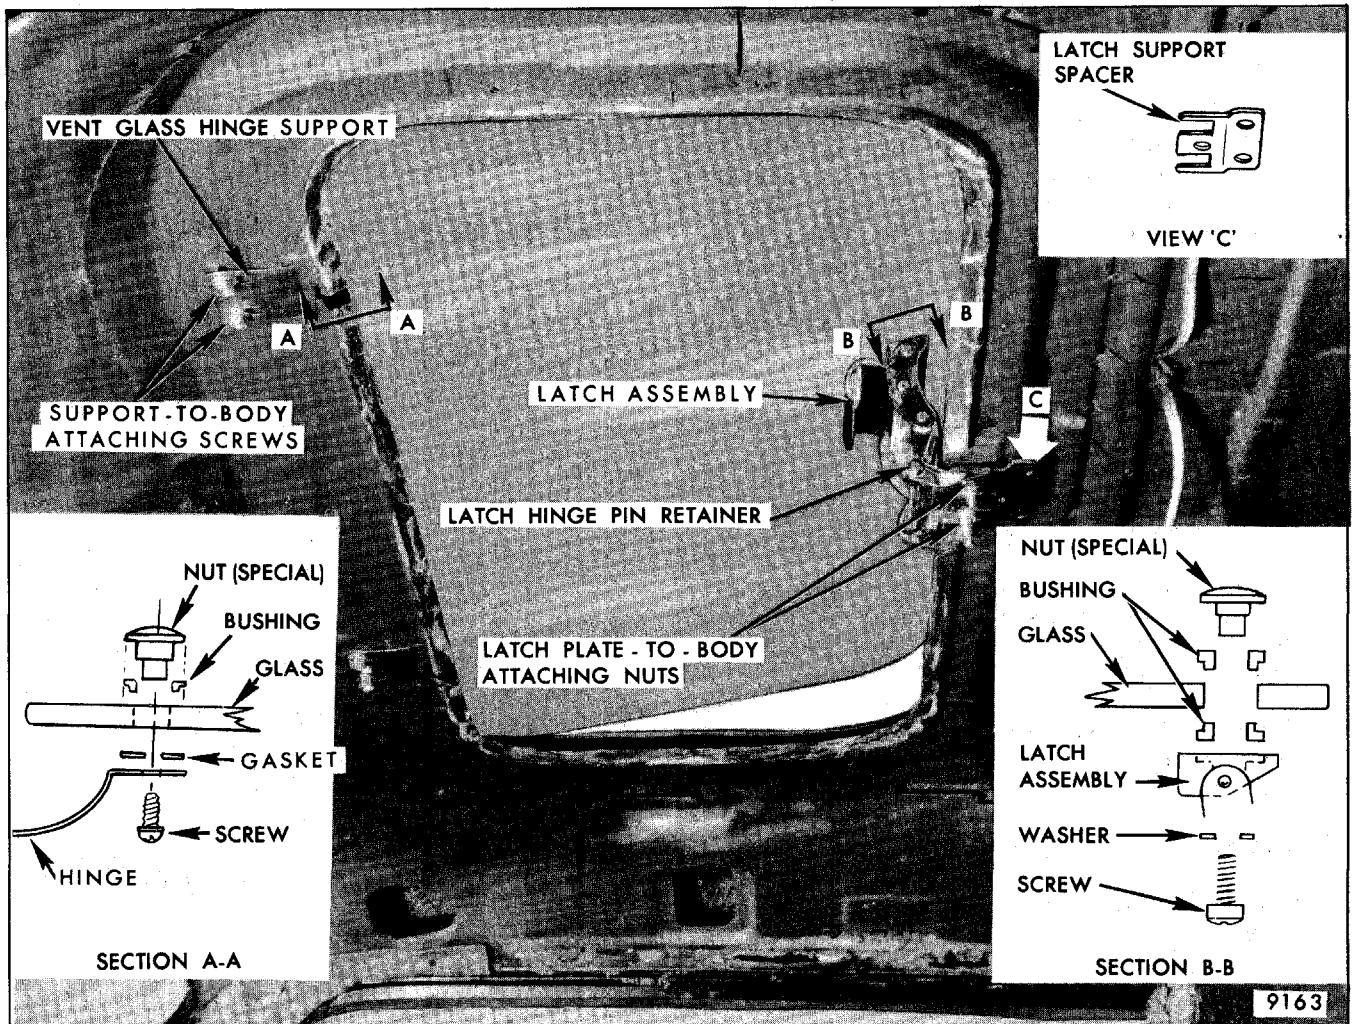
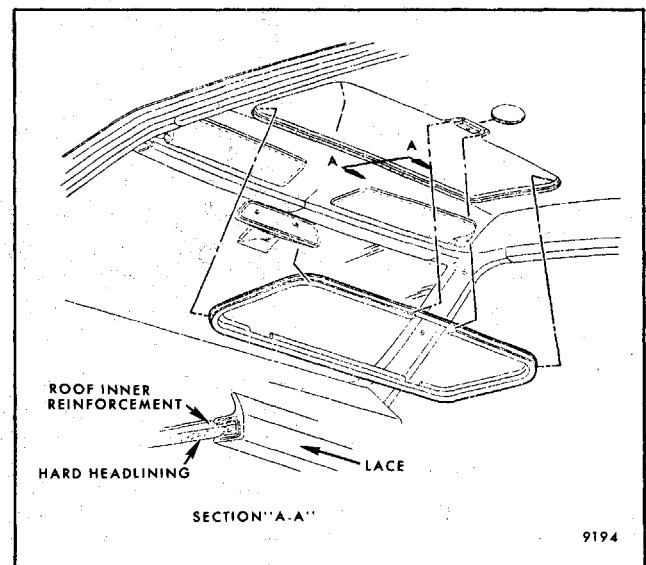

Fig. 8-72 - Vista Vent Hardware (Headlining Removed for Illustrative Purposes Only)
Fig. 8-73 - Vista Vent Lace Assembly Installation
insulated from the glass with protective bushings. The hinge supports are screwed to the roof inner panel reinforcement (see Fig. 8-72). The vent glass closes against a one-piece weatherstrip which is cemented and sealed within the gutter of the roof opening (see (Fig. 8-75). The lace assembly is positioned over the hard headlining and roof reinforcement flange (see Fig. 8-73).
If new vista vent glass is being installed, transfer upper portion of latch assembly and all special nuts and bushings (upper and lower) from original glass to new glass and add new gaskets (see Fig. 8-72) as a bench operation. Torque latch-to-glass and hinge-to-glass attaching screws to 14 to 24 in-lb.
2. Remove hinge-to-glass attaching screws and remove hinge (Section A-A, Fig. 8-72).
VISTA VENT GLASS LACE ASSEMBLY (Fig. 8-73)
1. Open vista vent fully and remove latch escutcheon assembly (Fig. 8-74). Detach roof trim lace along front edge of opening (Fig. 8-73).
2. Remove hard headlining from inner panel reinforcement at glass hinge areas sufficiently to provide access to hinge support-to-body attaching screws (Fig. 8-72).
3. Add spacer (part no. 9660357 or equivalent) to lower glass or remove existing spacer to raise glass (View "C", Fig. 8-72).
1. Disengage glass assembly from hinge supports and detach roof trim lace along front edge of opening (Fig. 8-73).
2. Remove latch-to-glass attaching screws and remove latch assembly (Section B-B, Fig. 8-72).